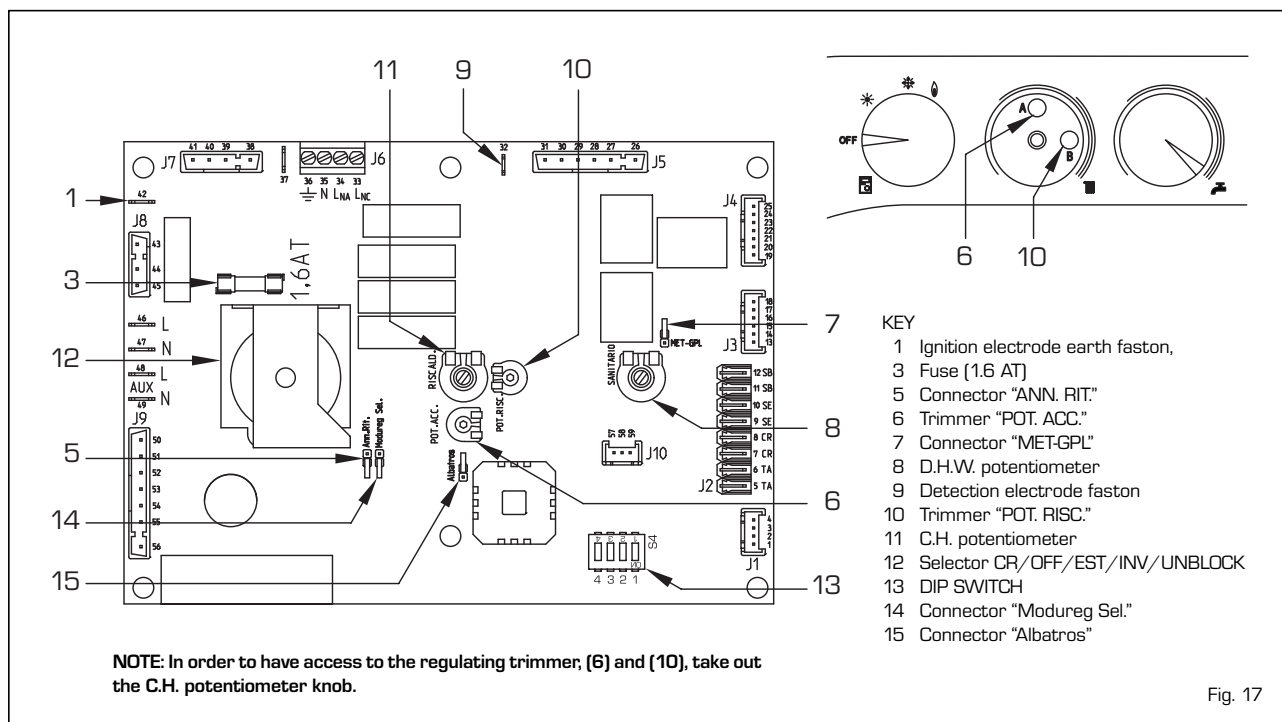

Fig. 17
- **Trimmer "POT. RISC."** (10 fig. 17)
- **Trimmer "POT. ACC."** (6 fig. 17)
- **Connector "MET-GPL"** (7 fig. 17)
- **Connector "ANN. RIT."** (5 fig. 17)
- **DIP SWITCH** (13 fig. 17)
- **Connector "Modureg Sel."** (14 fig. 17)
NOTE: In case of replacement of the SIT gas valve to HONEYWELL or vice-versa, set properly the Modureg connector of electronic panel (14 fig. 17 - point 4.1.2). With the jumper inserted the boiler is set for the SIT gas valve; with the jumper removed the boiler is set for the HONEYWELL gas valve.